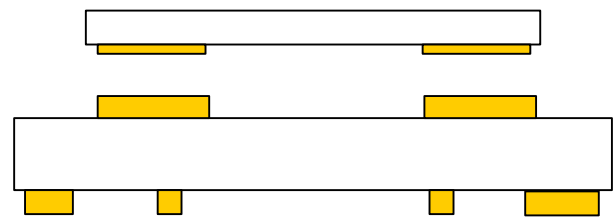

Figure 20. Correct PCB Top Metal Pattern Under Package
2. No additional metal pattern underneath package as shown in Figure 20.